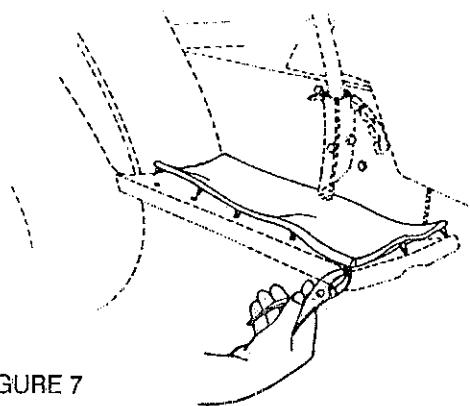

FIGURE 7
- b Pull the studs through the holes in the running board using a pair of pliers. Repeat on other side of tractor. See figure 7.